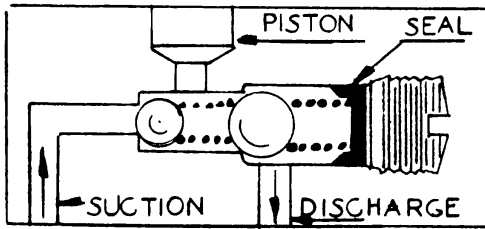

Fig. 25
2. Drop small pump valve ball in pump valve chamber followed by small spring. (See Fig. 25 Page 38)
3. Drop large ball followed by large spring into pump valve chamber. (See Fig. 25 Page 38)